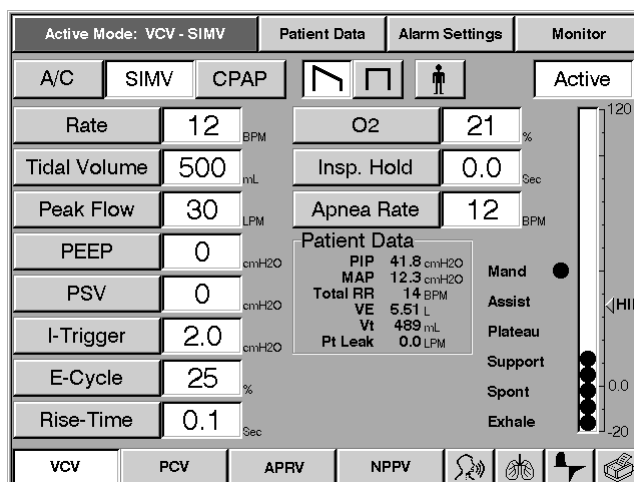

Figure 13-80: Settings Screen
1. Touch either the I-Trigger or E-Cycle button in the Settings screen (Figure 13-80). The Inspiratory Trigger or Expiratory Cycle window will appear.